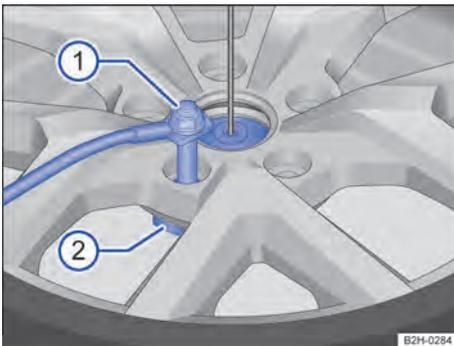

Fig. 210 Spare or emergency wheel: fit the safety screw.
1. Turn safety screw → Fig. 210 ① clockwise on the rim support.